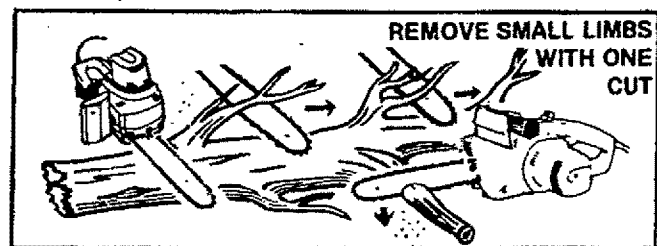

Figure 33
- c. Start at the base of the felled tree and work towards the top, cutting branches and limbs. Remove small limbs with one cut. Figure 33.
- c.) File from inside toward outside of cutter, straight across, on forward stroke only. Use 2 or 3 strokes per cutting edge. Figure 33.